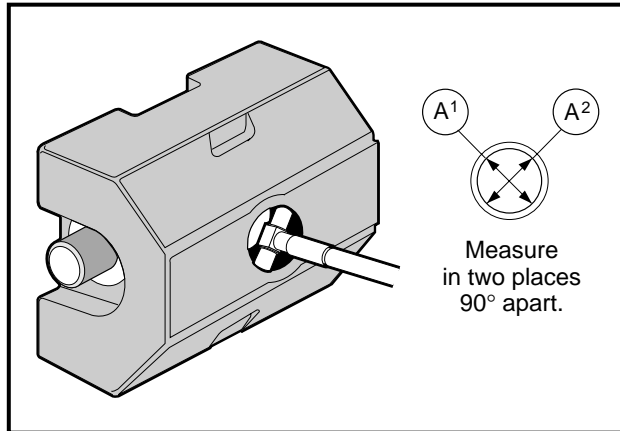

Figure 13-82 Measure I.D. of Counterbalance Weight Bore
2. Using a telescoping gauge and micrometer, measure the inside diameter of the bearing bore. If the inside diameter is greater than 1.0283 inches (26.119 mm), or the bore show signs of wear or damage, replace counterbalance weight (**Figure 13-82, Page 13-38**).